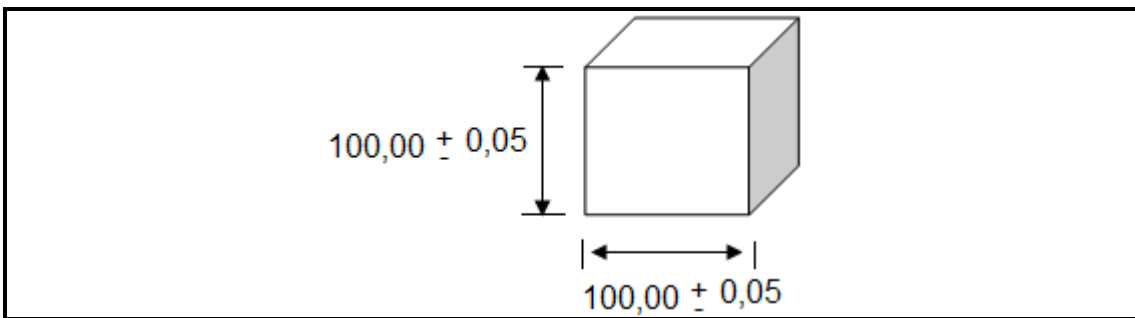

FIGURE 4
4.4 FIGURE 4 shows a workpiece that needs to be manufactured using a milling machine.